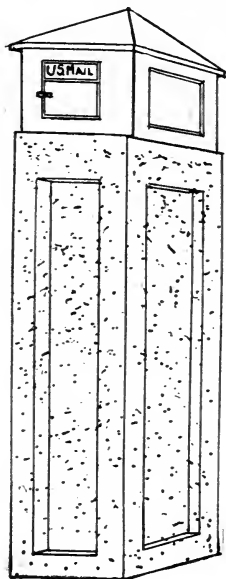

Figure 102.—Farm Gate Post with Copper Mail Box
*Permanent Mail Box.*—Figure 102 shows a copper mail box and concrete post. The post may stand out alone at the side of the road or it may be part of the entrance gateway. It must be easy of access. Bolts